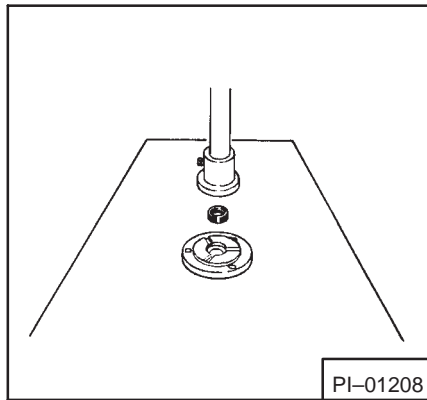

Fig. 25 Installing New Seal in Pilot Plate
2. Install a new seal in the pilot plate. Be sure it is started straight. Press it into its Proper location (Fig. 25).